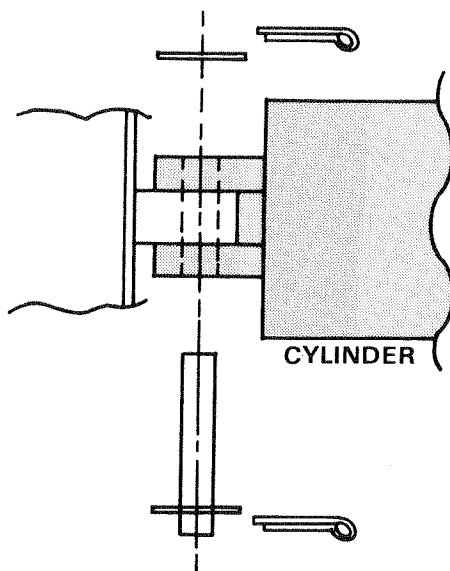

Figure 32. Bottom Cylinder Pin.
13. Grease and replace bottom cylinder pin as follows, Figure 32: